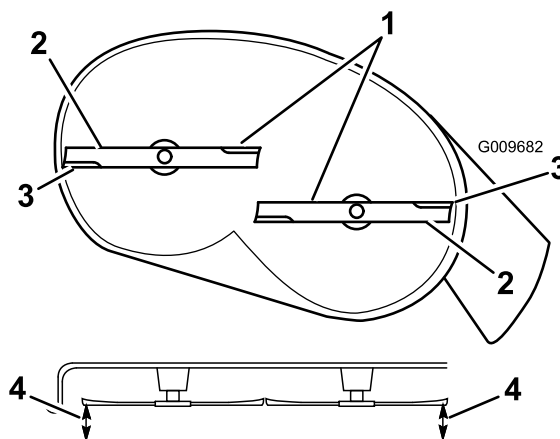
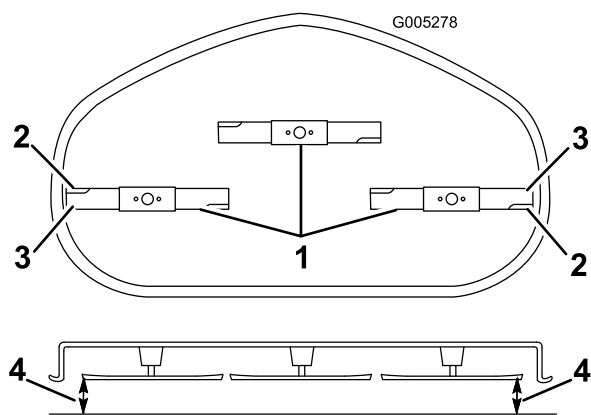

Figure 59
Figure 60
4. Carefully rotate the blades so that they are all side to side (Figure 59 and Figure 60).
5. Measure between the outside cutting edges and the flat surface (Figure 59 and Figure 60). If both measurements are not within 3/16 inch (5 mm), an adjustment is required; continue with this procedure.